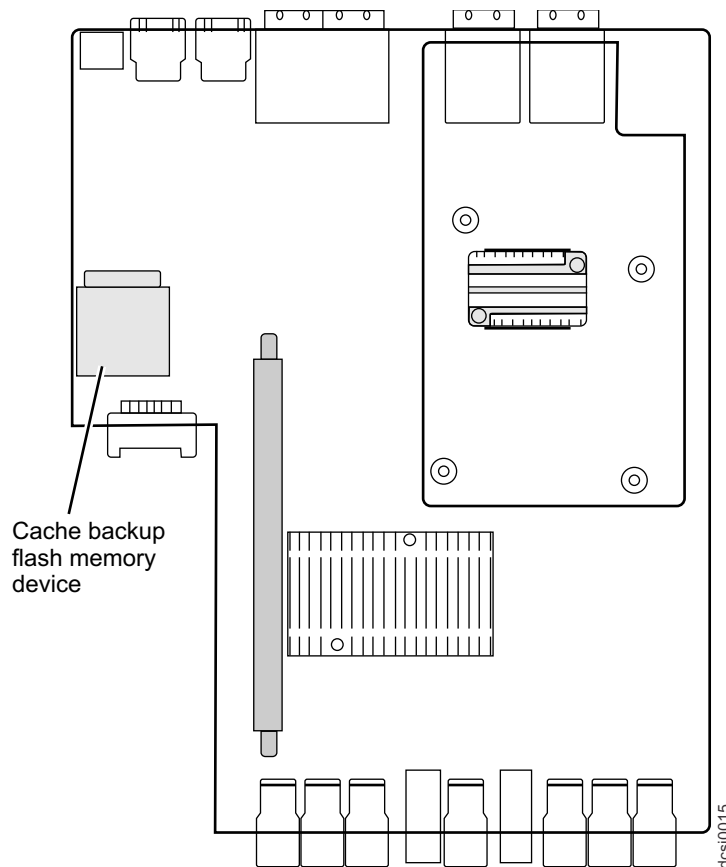

Figure 62. Cache backup flash memory device location
12. Remove the cache backup flash memory device from the controller and install in the new controller. Figure 62 on page 102 shows the location of the of the cache backup flash memory device on controller board.